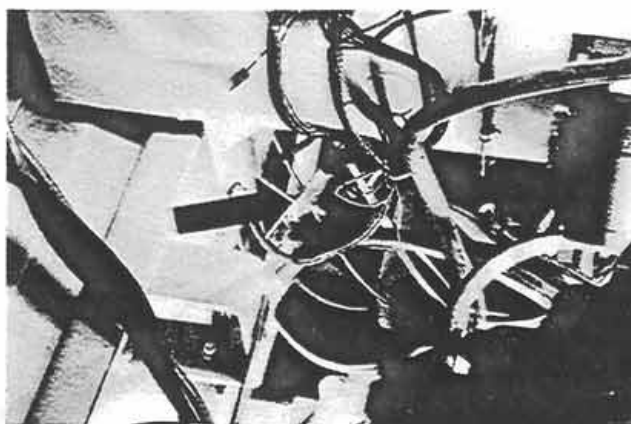

Figure 63:
**NOTE:** If there is limited access to the steering valve exhaust port, the swivel tee fitting may be installed between the return manifold and steering valve exhaust hose. (See Fig. 63)